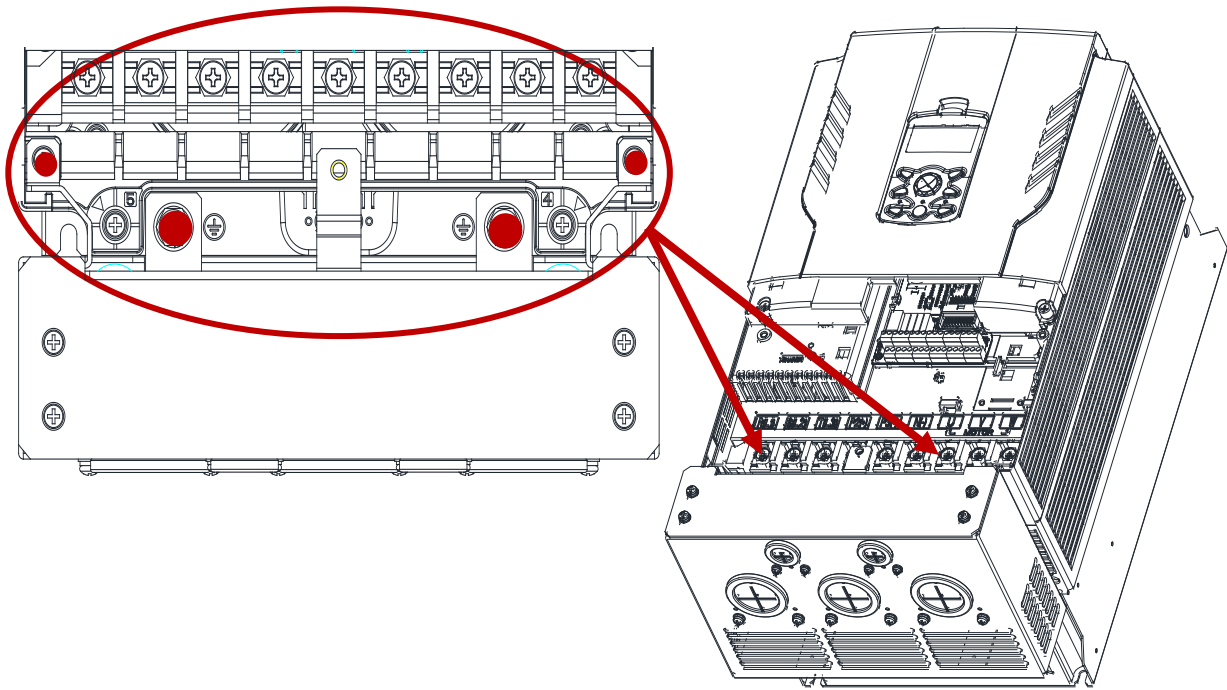

Figure 5. Install Conduit Option
- ② Install screws in locations shown in Figure 5.